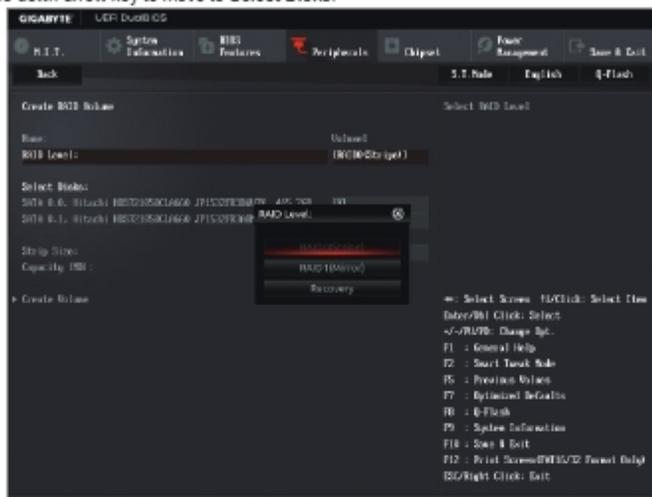

Figure 4
On the Intel(R) Rapid Storage Technology menu, press <Enter> on Create RAID Volume to enter the Create RAID Volume screen. Enter a volume name with 1~16 letters (letters cannot be special characters) under the Name item and press <Enter>. Then, select a RAID level (Figure 4). RAID levels supported include RAID 0, RAID 1, RAID 10, and RAID 5 (the selections available depend on the number of the hard drives being installed). Next, use the down arrow key to move to Select Disks.